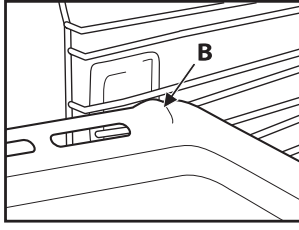

Fig. 2
2. The other accessories, like the drip tray and baking tray, are inserted with the raised part on the flat section "B" facing upwards (Fig. 2).